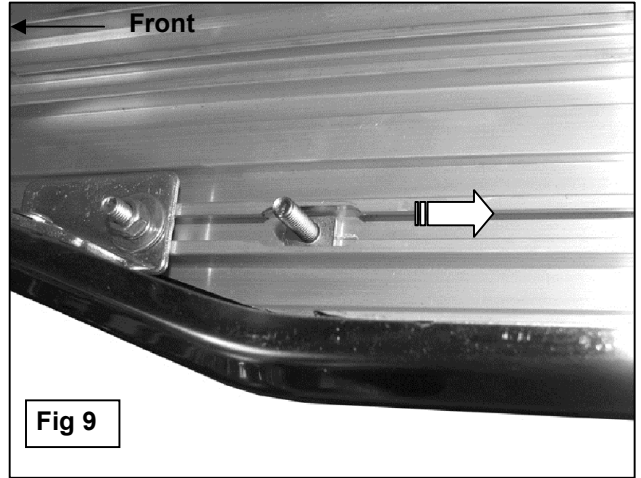
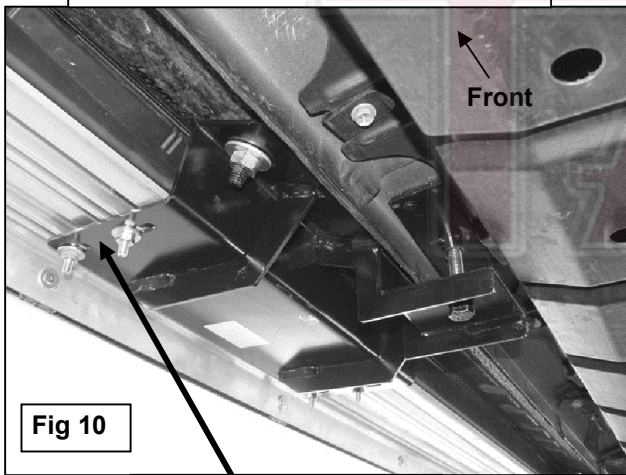

Fig 9
Fig 10
5. Carefully unwrap the passenger side Running Board. From the front, slide (3) T-Bolts into each channel in the bottom of the Running Board, (**Figure 9**). Slide the T-Bolts forward or back to line up with the slots in the (2) previously installed Mounting Brackets. Hold the Running Board up to the vehicle at a slight angle and gently push it into position against the rocker panel. Insert the T-Bolts through the slots in the Brackets, (**Figure 10**).
6. Attach the Running Board to the Mounting Brackets with the included (6) 6mm Flat Washers, (6) 6mm Lock Washers and (6) 6mm Hex Nuts, (**Figure 10**). Do not tighten at this time.